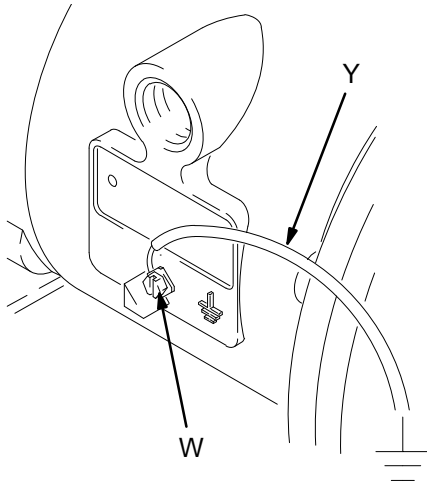

FIG. 1
- The typical installation shown in FIG. 1 is only a guide for selecting and installing system components. Contact your Graco distributor for assistance in planning a system to suit your needs.
- **Pump:** Connect a ground wire and clamp as shown in FIG. 1. Loosen the grounding screw (W). Insert one end of a 12 ga (1.5 mm²) minimum ground wire (Y) behind the grounding screw and tighten the screw securely. Connect the clamp end of the ground wire to a true earth ground. Order Part No. 222011 Ground Wire and Clamp.